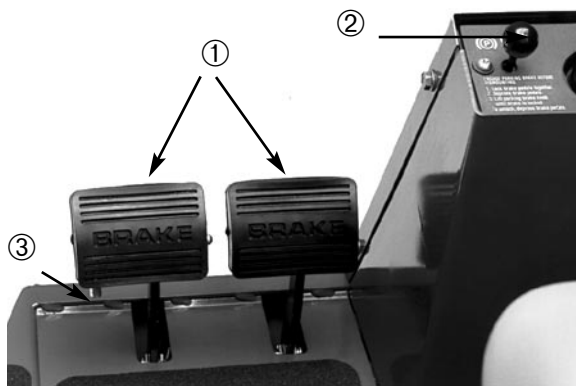

**Figure 13**
**Hour Meter** (Fig. 13)—Shows the total hours the machine has been operated.